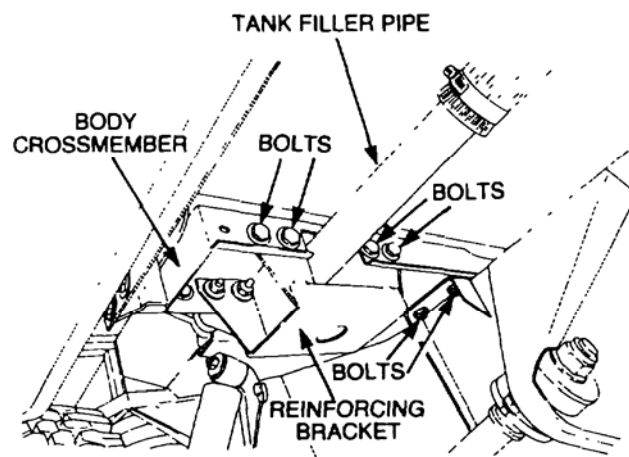

Figure 18 Removal of the Body Brace Support
- oo. Remove the bolts, nuts and washers securing the rear body crossmember to the chassis frame (Figure 18).
- rr. Remove the nuts, washers and bolts from the reinforcing bracket fitted to the detachable body crossmember (Figure 18) and remove the bracket from the crossmember.
- x. Install the nuts, washers and bolts retaining the rear body support brace to the chassis frame (Figure 18).